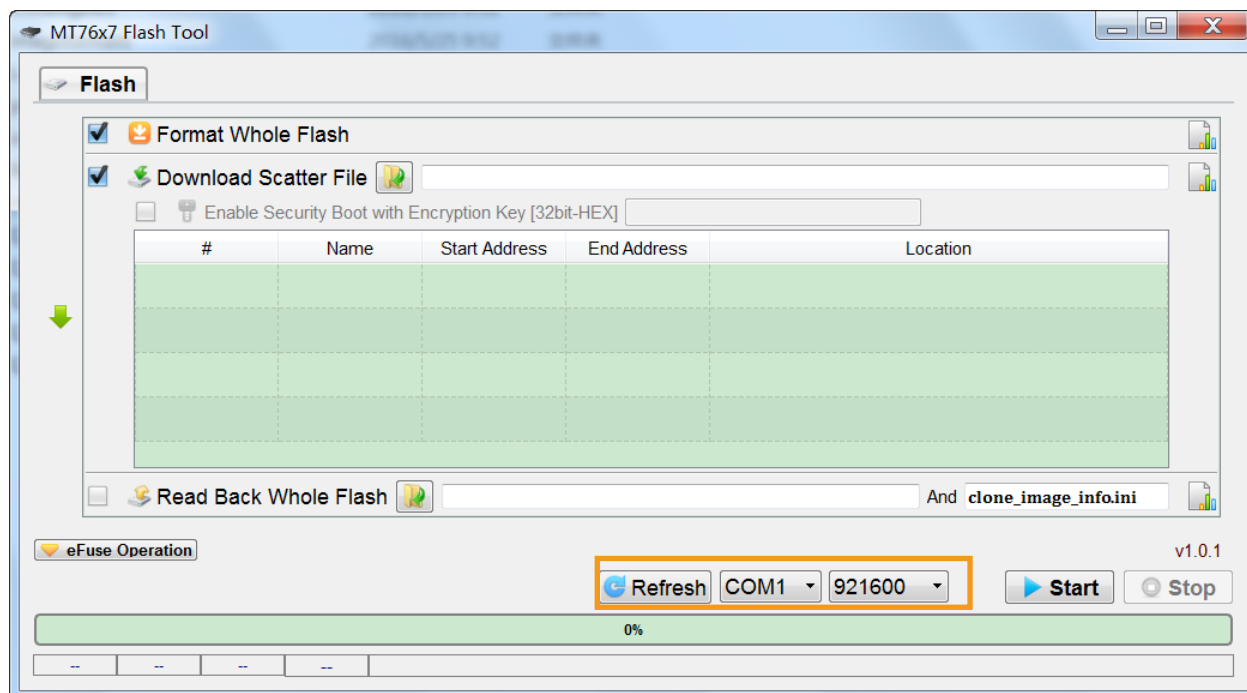

Figure 7. Setup the COM port and baud rate
- Click **Refresh** and configure the correct COM port (see section 2.2.2, "Installing the LinkIt 7687 HDK drivers on Microsoft Windows") and the baud rate, as shown in Figure 7.